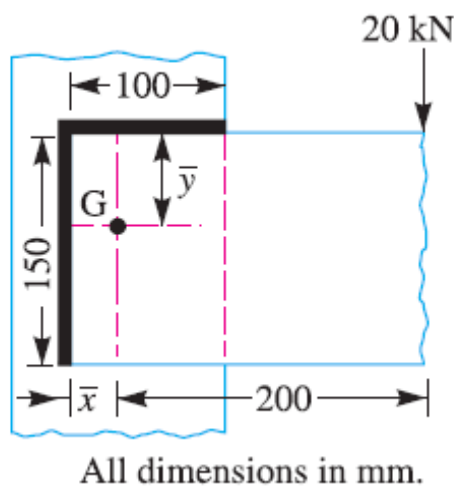

Fig.2
- 2) Fig.2 shows a welded joint subjected to an eccentric load of 20 kN. The welding is only on one side. Determine the uniform size of the weld on the entire length of two legs. Take permissible shear stress for the weld material as 80 MPa.